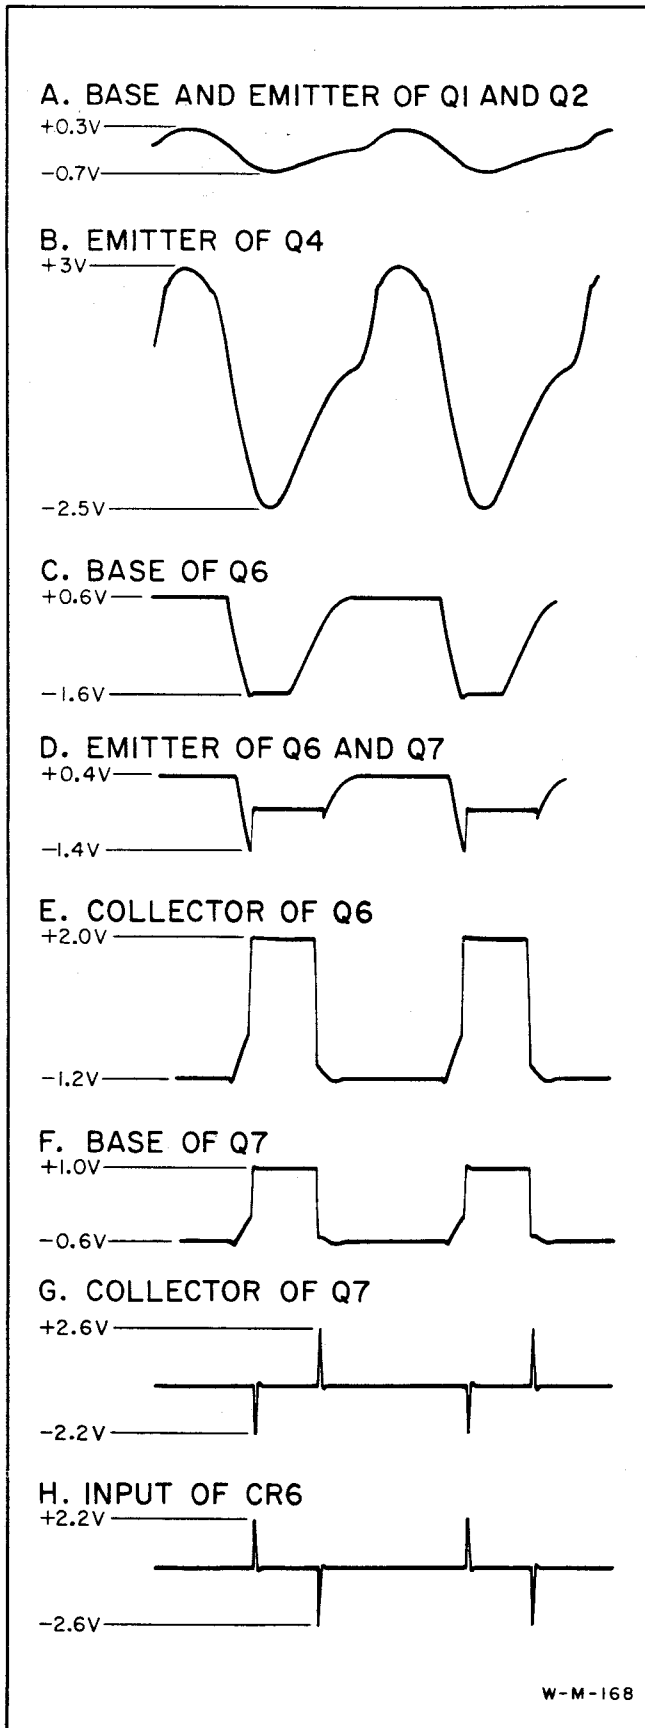

Figure 4-1. Waveforms Resulting from Input Sine Wave at 1 Volt Peak-to-peak
c. Refer to waveform chart, component location drawing, and schematic diagrams (figures 4-1 through 4-6) for guidance.
d. Apply a sine wave to input of Model 5262A and check points listed with waveforms in figure 4-1.